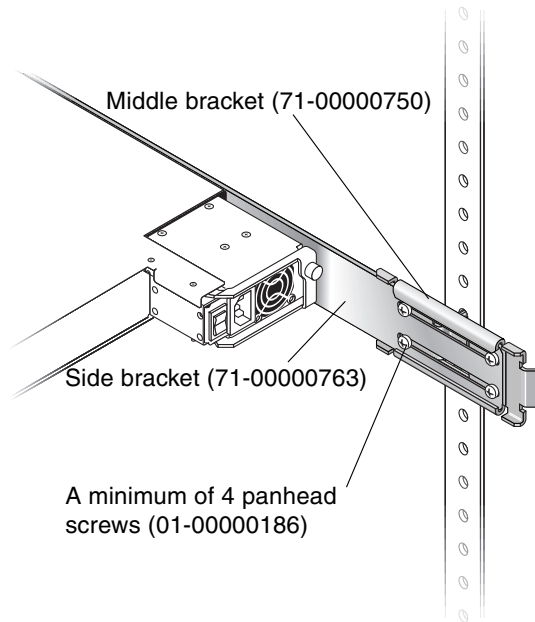

FIGURE 2-12 Middle and Side Brackets Assembled
8. **Attach each side bracket to a middle bracket** (see FIGURE 2-12):